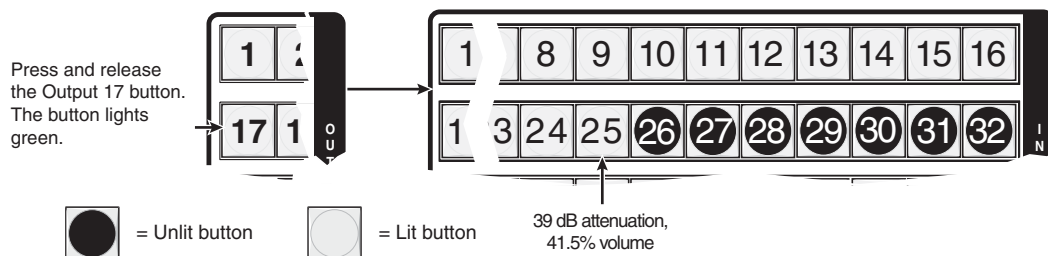

Figure 3-61 — Select output 17
3. Press and release the output 17 button (figure 3-61).